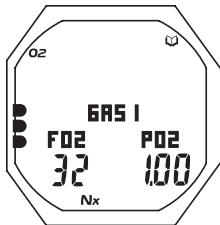

Fig. 35 - LOG DATA 2
**Log Data 2** (Nitrox only), information includes (Fig. 35):